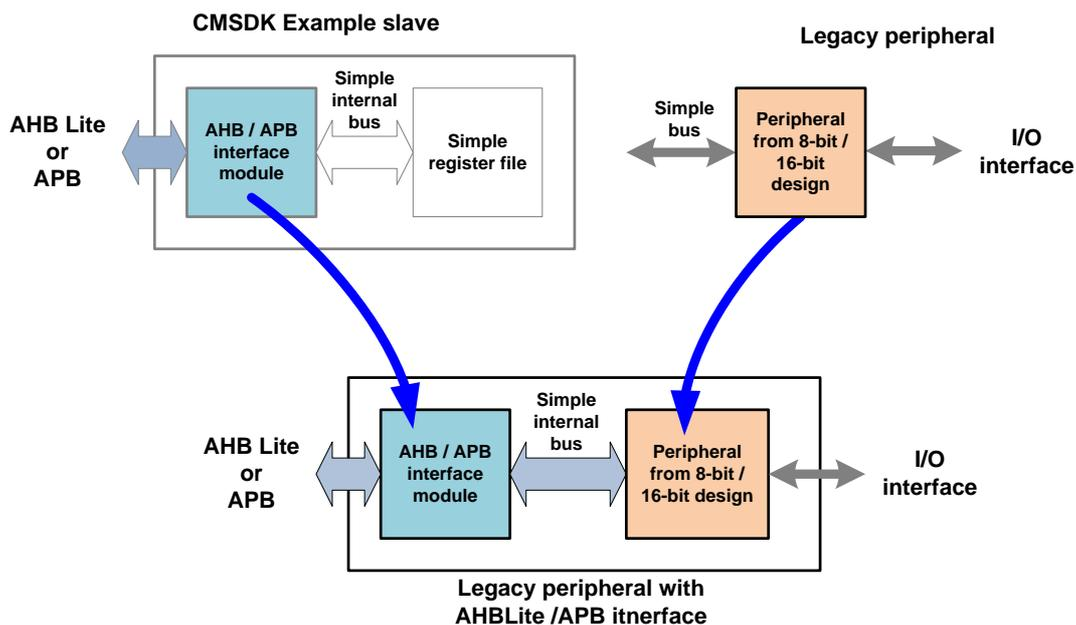

Figure 1 - Porting legacy peripherals to AHB/APB based system with example slaves from CMSDK/CoreLink SIE-200
There are many suppliers of peripherals based on AHB and APB protocols. Designers might also have existing peripherals from a previous design based on legacy processor architectures. In such a case, the example AHB slave and example APB slaves in the CMSDK (ref 3) and CoreLink SIE-200 (ref 4) are good references for porting these peripherals to AHB and APB. The example slaves in the CMSDK/CoreLink SIE-200 contain a simple AHB/APB bus interface module, which enables most legacy peripherals to be connected to AHB/APB without any modifications (figure 1).